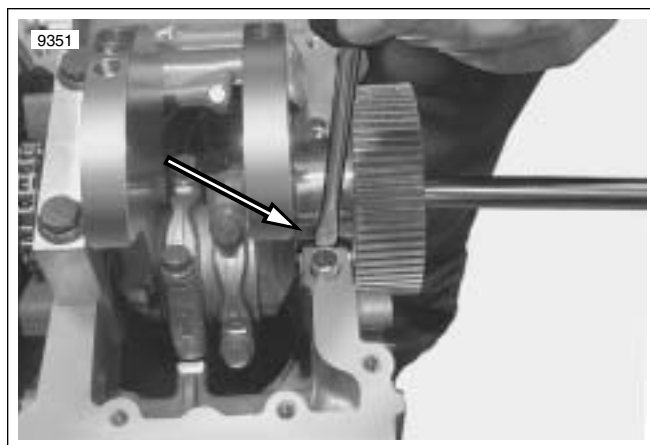

Figure 3-184. Remove Water Pump Side Bearing
1. See Figure 3-184. Insert a 10 in. long 1/2 in. drive extension in the square hole of the crankshaft drive gear.
2. See Figure 3-184. Apply gentle upward pressure on the 1/2 in. drive extension. Using a screwdriver on the side opposite the bearing notch, very carefully tap on old bearing until it is exposed enough to be removed by hand.